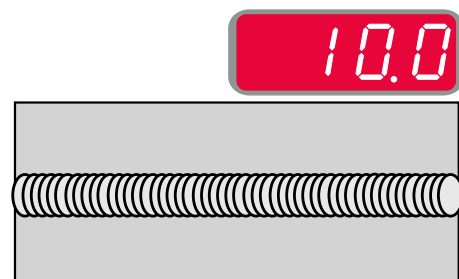

Figure 17.
- Frequency greater than 0,0 – Narrow weld and ripple spacing, fast travel speed. Figure 17 shows the spacing weld when the frequency is "+10".